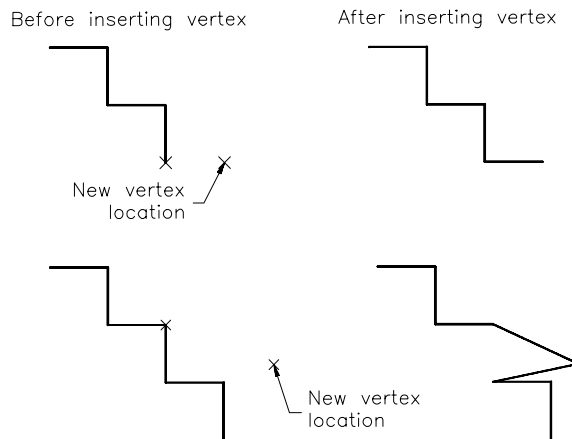

Figure 20-17 Using the **Insert** option to define new vertex points
Insert Option. The **Insert** option allows you to define a new vertex and add it to the polyline (Figure 20-17). You can invoke this option by entering **I** for **Insert**. You should invoke this option only after you have moved the marker (X) to the vertex after which the new vertex is to be